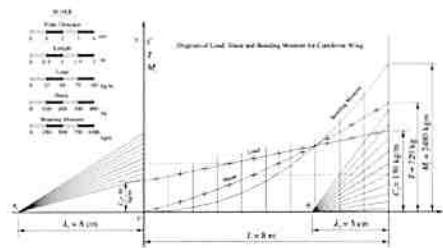

Figure 9-13
**Example.** Let's construct a graphic diagram of shear and moment. Let's use a convenient scale for the shear loads of a cantilever wing as shown in Figure 9-13